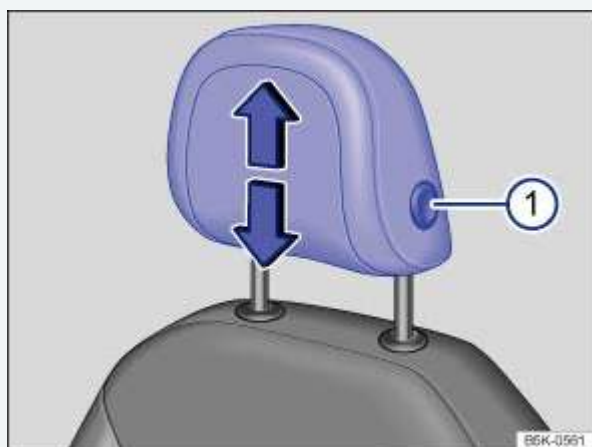
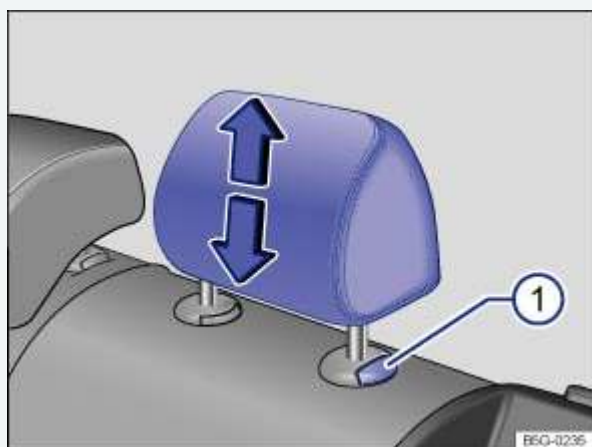

Fig. 44 Adjusting the front head restraints.
Fig. 45 Adjusting the rear head restraints.
- Pull the head restraint up in the direction of the arrow, or push it down while pressing the button ⇒ Fig. 44① or ⇒ Fig. 45① ⇒ ⚠.